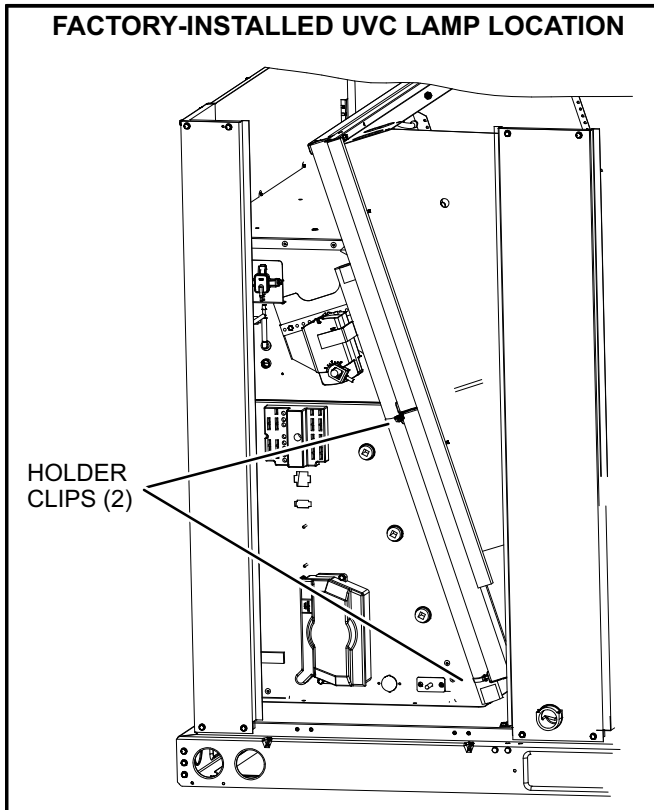

FIGURE 32
- 1- Cut wire ties and remove the UVC lamp attached to the filter rack. See figure 32.